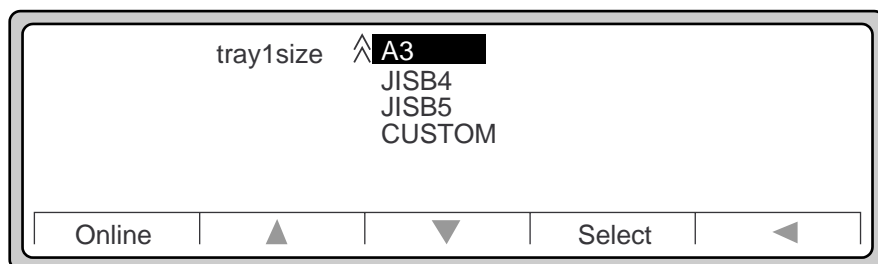

Figure 3-11 Paper size selection continuation
5. Use ▲ or ▼ to move to the correct paper size (Figure 3-11).